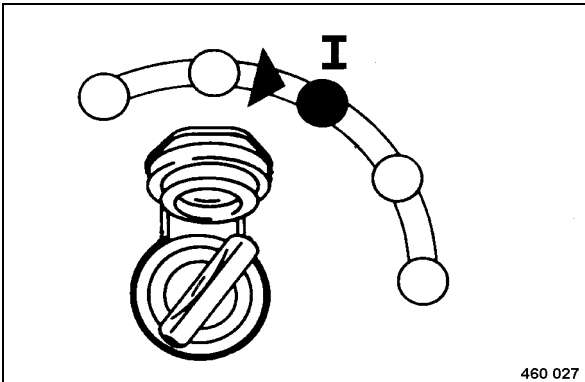

Fig. 84
- Set the starter switch to position "I" (Fig. 84). The control unit shows the start screen.